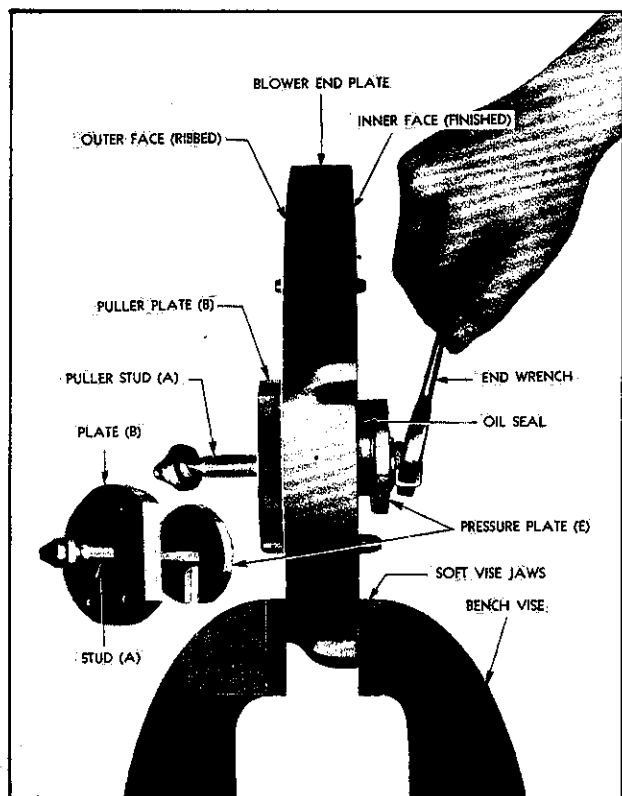

Fig. 8—Installing Oil Seals into Blower End Plates.
1. **Install Oil Seals in Blower End Plates**—The oil seals should be assembled into the end plates with flat face of seals flush with inner, finished face of plates and sealing edge of leather pointing toward rotor bearings, as shown in Fig. 2. The seals may be installed properly with the tools shown in Fig. 8, as follows:
- (a) Support end plate between soft jaws in bench vise. Back out puller stud (A) as far as possible and push stud through bore for bearing in end plate from the outer face (rib side with puller plate [B]) resting against outer face of blower end plate.